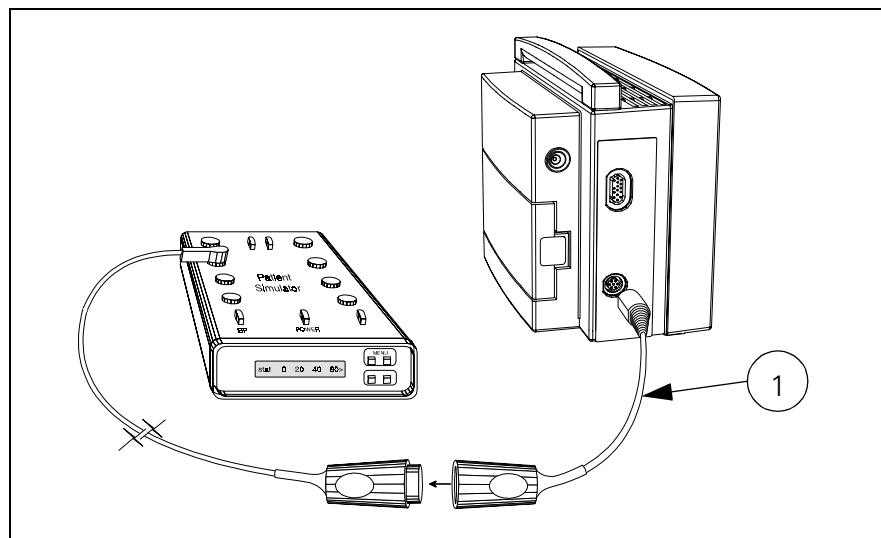

Figure 4-2 IBP Test Setup
1. Connect simulator BP output to IBP input on monitor's left side panel, using adapter cable (① in Figure 4-2) Art. No. 33 68 383 E530U.